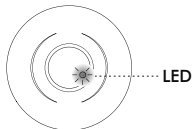

FIG.21
- The red LED of KDP1 360 FP is behind the lens (See FIG.21) for test mode indication. In walk test, LED will turn on for 2sec once the detector is triggered. If detector is continuously triggered, the red LED will require an interval time of 2sec to turn on again. With the above said LED function, the load is not necessary to be connected while conducting walk test.